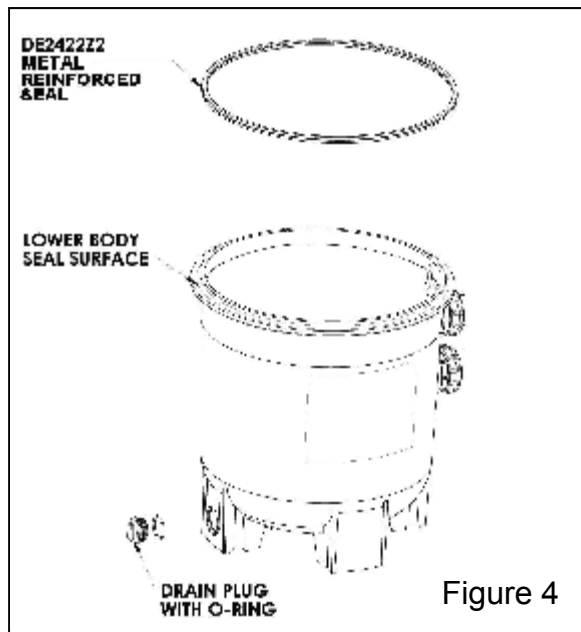
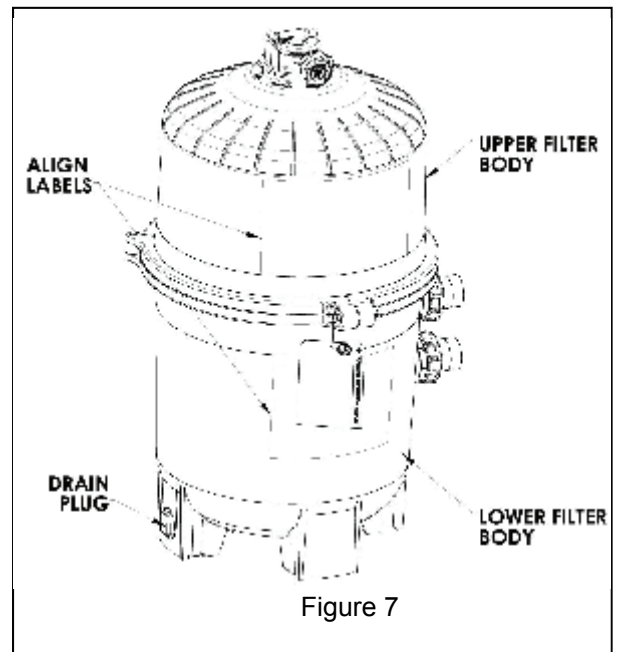

Figure 4
Figure 7
2. Close filter drain. Note: Filter plug requires an o-ring seal. (See Fig 4)
4. Remove filter drain plug (FIG 4) and drain water from filter.
2. With a clean cloth wipe the lower filter body seal surface. (Fig 4) Do not use a solvent.
1. Place the metal reinforced seal on the lower filter body (Fig 4). Place the upper filter body on the Hayward DEX2422Z2 metal reinforced seal and lower filter body in a position which allows all operation and safety labels to be clearly visible and the upper body to be centered on the lower filter body. Press down firmly and evenly to set the upper filter body. (Fig 7)
2. Replace the filter clamp around the upper and lower filter bodies. Hold the clamp ends to position the clamp on the filter bodies with the clamp ends adjacent to the safety and operation labels on the filter bodies. (Fig 7)